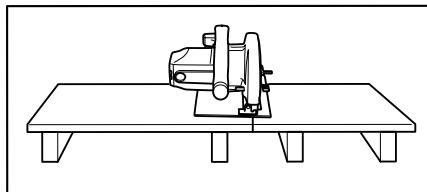

Fig. 1
8. Support Large Panels (Fig. 1 & 2).
Large panels must be supported as shown in Fig. 1 to minimize the risk of blade pinching and kickback.
10. Guard Against Kickback. (Fig. 1 & 3)
Kickback occurs when the saw stalls rapidly and is driven back towards the operator. Release switch immediately if blade binds or saw stalls. Keep blades sharp. Support large panels as shown in Fig. 1. Use fence or straight edge guide when ripping.